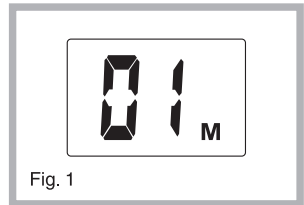
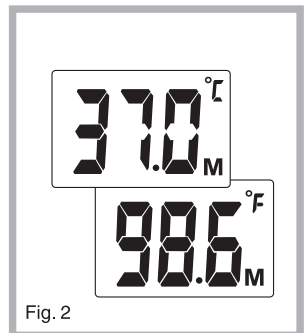

Fig. 1
Fig. 2
1. Orient the probe cover box so that “this side down” is facing the bottom of the cradle and “slide down” is facing the outside of the cradle (Fig. 1).
2. After the box is properly oriented, further line up the probe cover box so that the cradle brackets are touching the black bars on the bottom of the probe cover box. Then, push down on the box firmly to slide the box down the brackets (Fig. 2). The brackets should go inside, not outside, of the box.
2. Press and release the  on/off button. The thermometer will beep and perform a brief self-test, during which all indicators on the display will be shown, followed by 'ok' (See Fig. 2). If the probe cover is not installed correctly, the screen will show a flashing probe cover illustration (See Fig. 1). If you see this illustration, please check the probe cover and re-install another probe cover, if necessary.
A flashing '01' will appear with a small M in the lower right-hand side of the LCD screen (See Fig. 1).